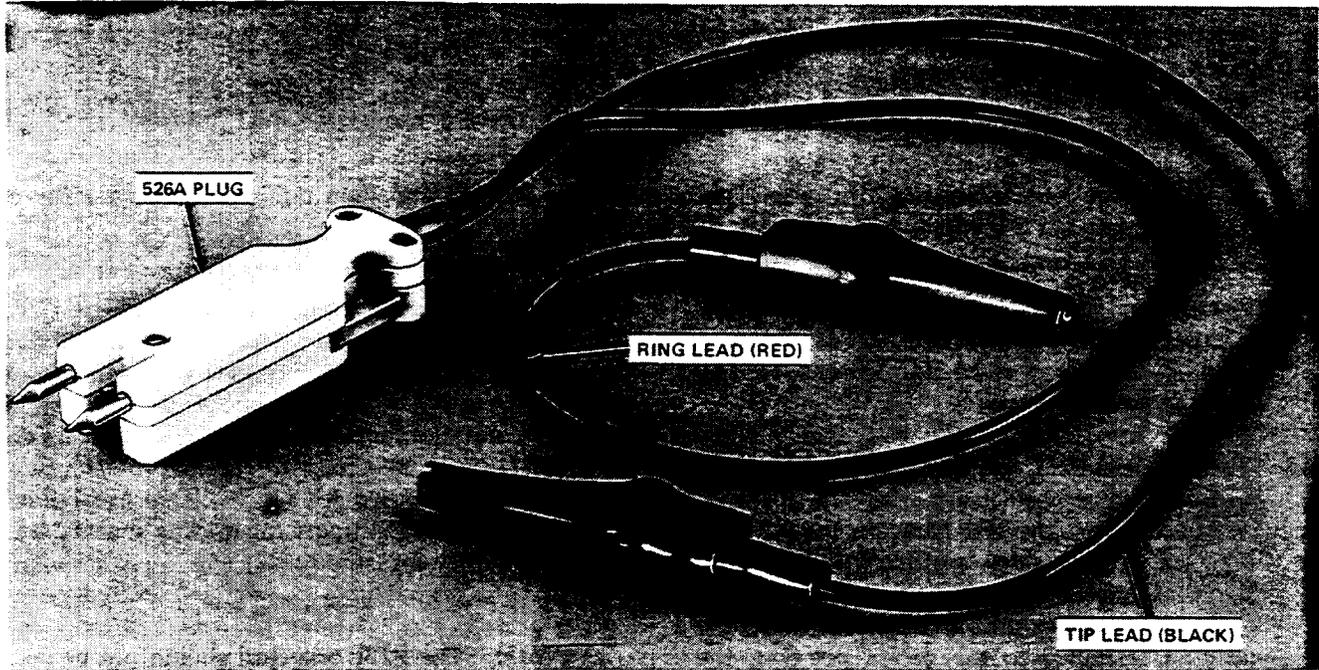

Figure 30—P2FL Test Cord
7.08 The standard P2FL test cord (Figure 30) is used to test a single protected pair on the 309-type connector by utilizing the test ports on the 4C-type protector unit. This service verification is accomplished by bridging the 526A plug end of the test cord onto a 4C-type protector unit. In addition, when the protector unit is pulled to the detent position, the central office equipment path is disconnected while simultaneously providing a test path to the outside